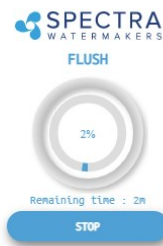

Figure 24
4.2) Once the system Flush has started, you do not need to press any other button. When you see the screen in Figure 24, proceed to the next step.